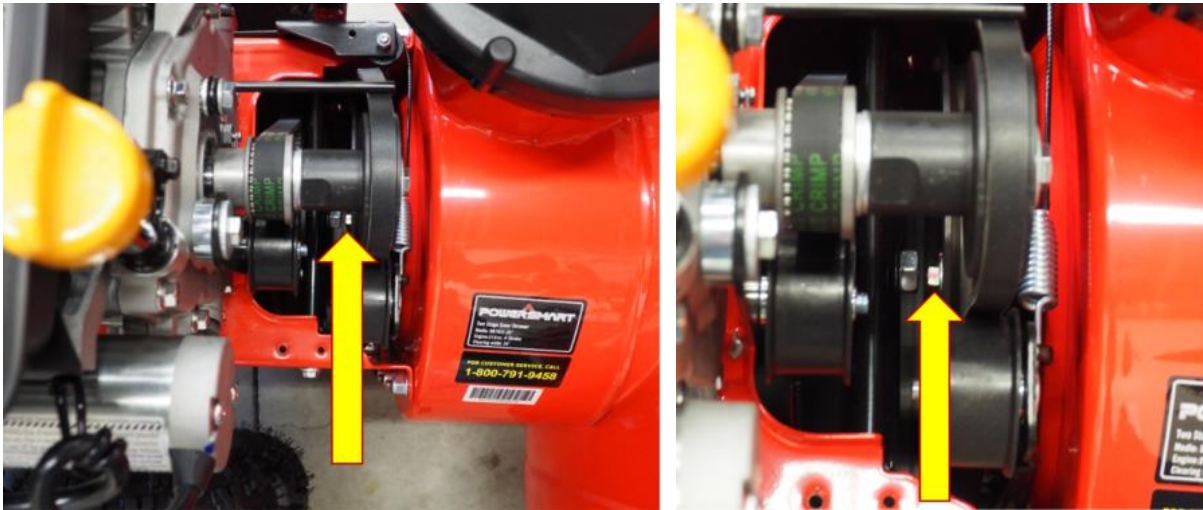

Figure 5. The auger pulley bolt is the bolt closest to the auger housing.
Step 2: Identify the *auger pulley bolt*. The auger pulley bolt holds the pulley that drives the auger to the red housing. In Figure 5, the auger pulley bolt is identified with a yellow arrow.